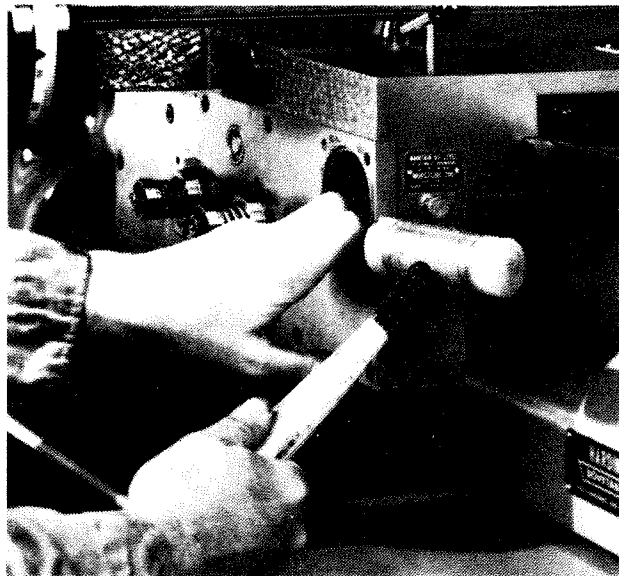

Figure 1.5 - Apron Cover Removal
- a) Pull the cover outward with the left hand while striking the edge of the cover with a soft-faced hammer until a crack appears in the sealant. Refer to Figure 1.5 .